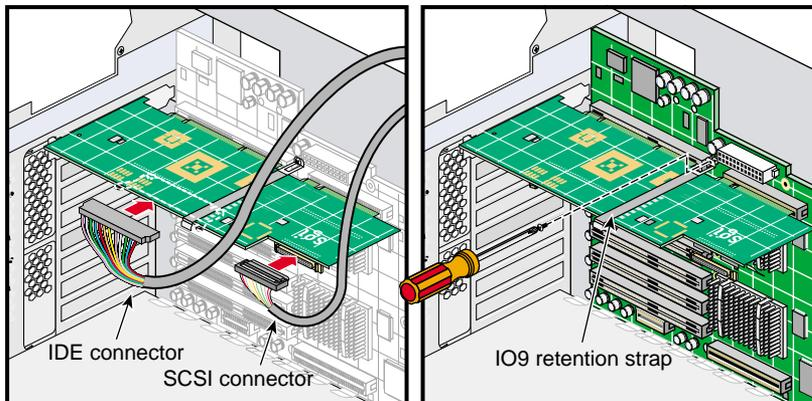

Figure 3-20 Connecting the Cables and Retention Strap
2. Connect the SCSI and IDE cables to the IO9 board. To connect a cable, align the cable connector with the socket on the IO9 board and press down. Then attach the retention strap to the IO9 board (see Figure 3-20).